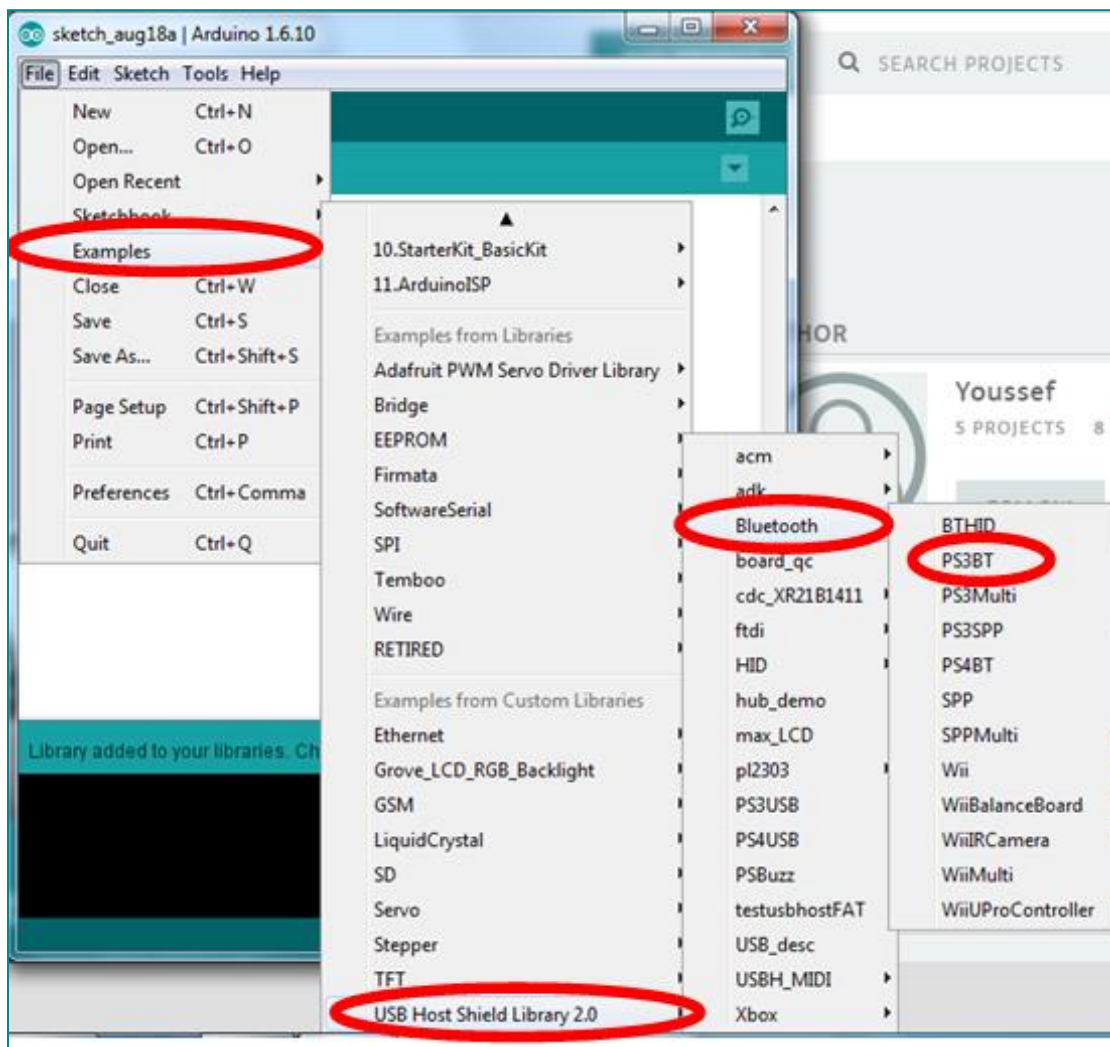

Figure 4-8. Accessing the examples that come with the library for the SparkFun USB Host Shield.
6. Now you can access the examples that come with the library to learn how to use the SparkFun USB Host Shield. For example, the code for the **USB shield – Bluetooth PS3 controller** interconnection can be accessed as shown in Figure 4-8.